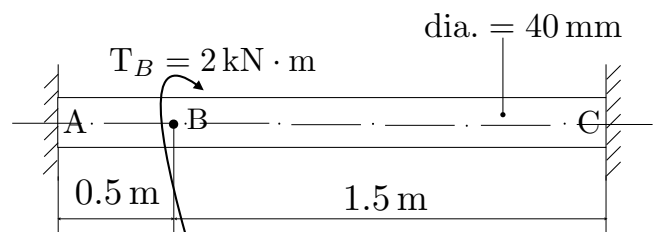

Figure 3: A Bar Fixed at Both Ends and Subjected to a Twisting Moment
3. Figure 3 shows a bar fixed at both ends and acted on by a torque $T_B = 2 \text{ kN} \cdot \text{m}$. Assume the shear modulus of the material of the bar $G = 85 \text{ GPa}$.